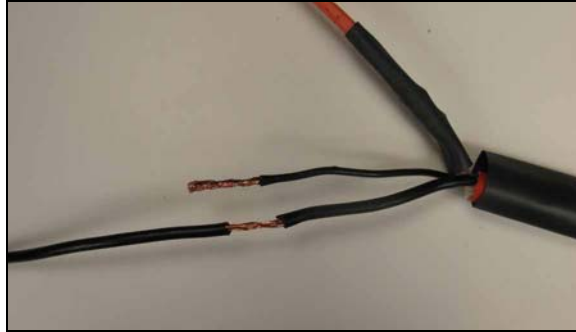

Figure 15: Black Wires Ready for Soldering
- Using a razor blade holder, carefully remove 1.5 cm of insulation off the extension cord wire as shown in Figure 15.